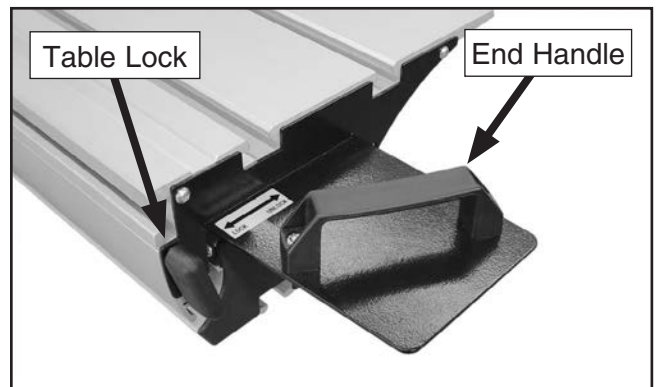

Figure 29. Sliding table end handle.
- Install the end handle, as shown in **Figure 29**, using screws removed in **Step 1**.
- Rotate the table lock up to unlock the sliding table. The sliding table is locked in place when in the position shown in **Figure 29**.